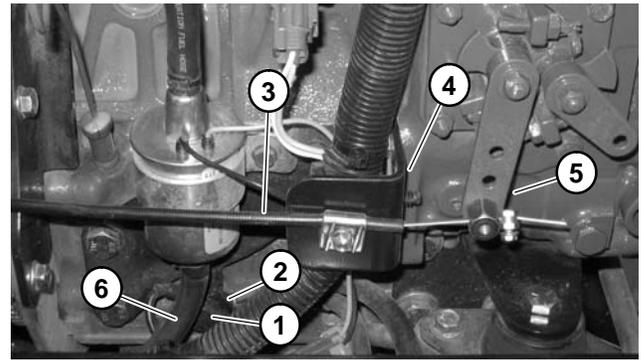

Figure 11
A. Battery, wire harness and engine grounds (Fig. 11).
9. Disconnect throttle cable from the support and swivel on the speed control lever (Fig. 11).
10. Disconnect fuel hose from the fuel pump (Fig. 11) and front injector nozzle.
8. Connect fuel hose to the fuel pump (Fig. 11) and front injector nozzle.
- A. Engine grounds to the battery and wire harness (Fig. 11). Torque the engine ground bolt to **34 to 42 ft-lbs (46 to 57 N·m)** and apply a coat of aerosol terminal protector.
14. Connect throttle cable to the support and swivel on the speed control lever (Fig. 11).